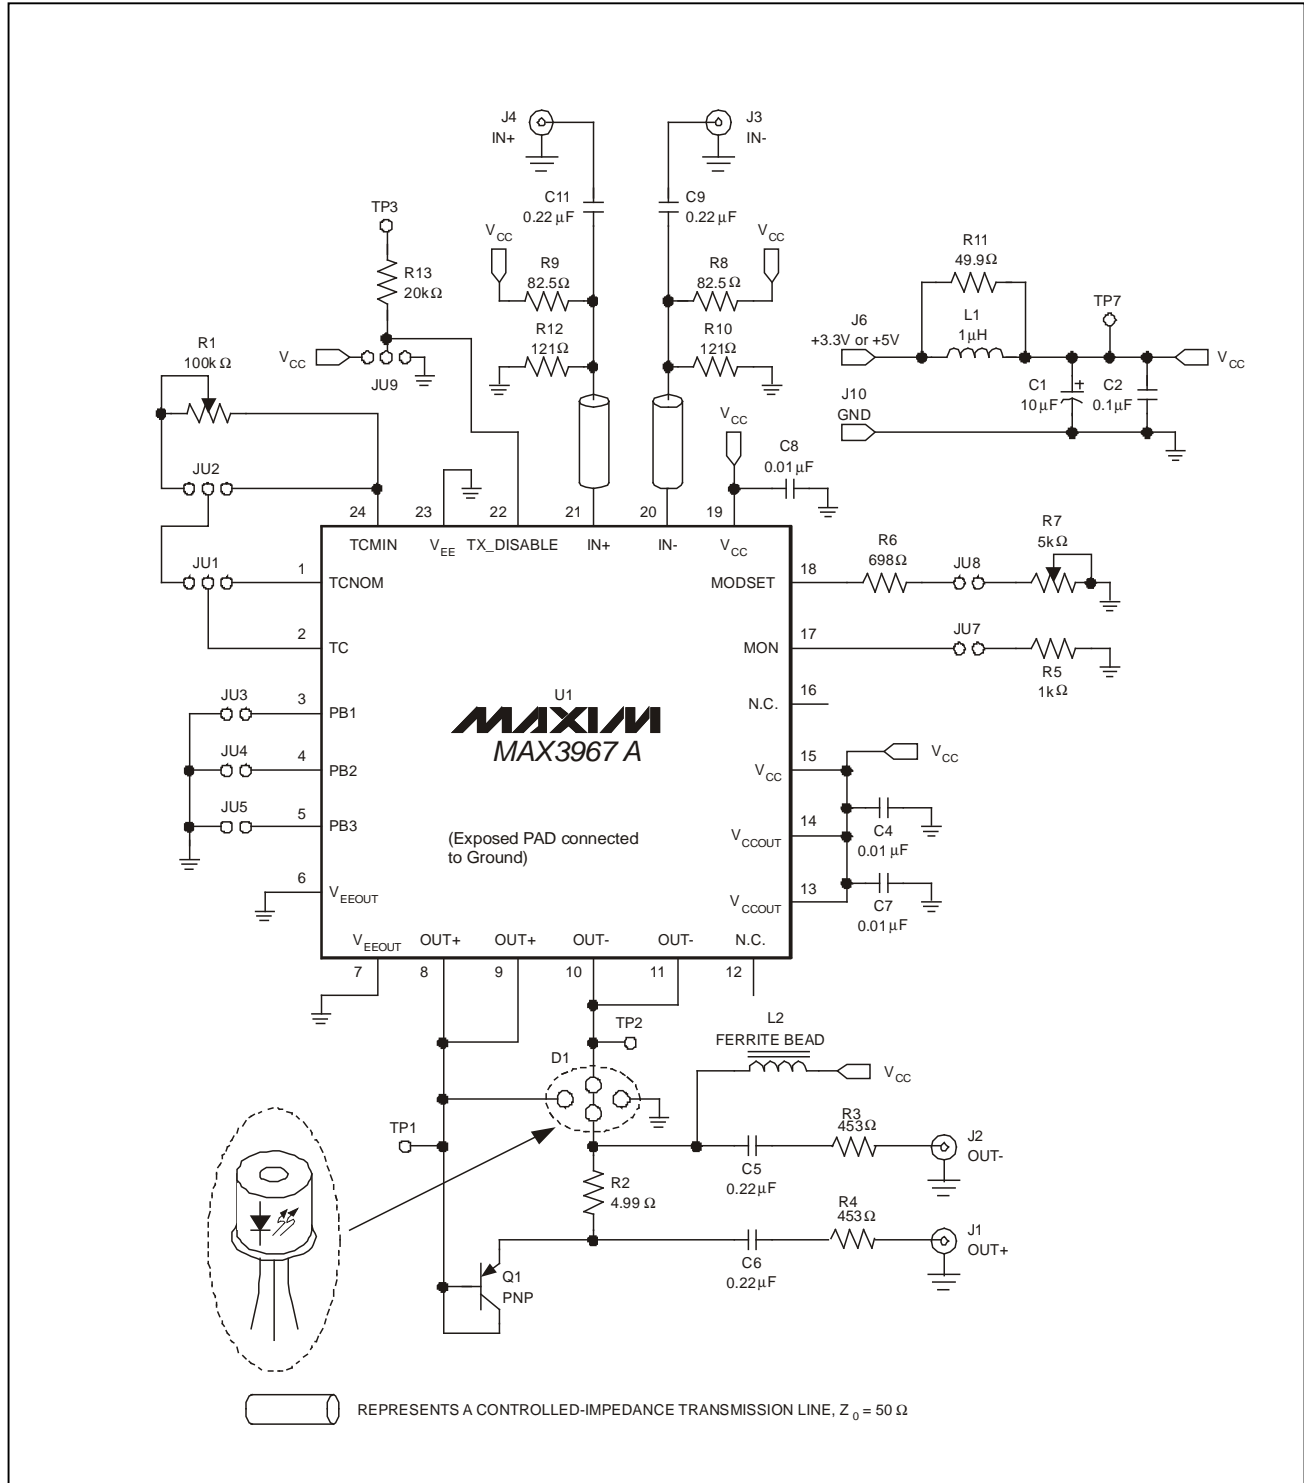

Figure 1. MAX3967A EV Kit Schematic
- 3) Solder LED onto socket D1, see the Figure 1 for socket layout. Connect the anode to OUT- and the cathode to OUT+.